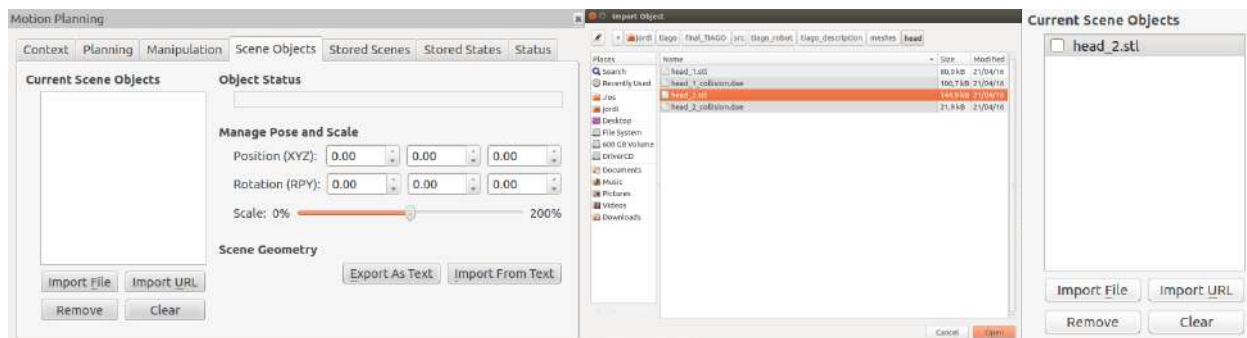

Figure 126: Scene objects tab (left), select the mesh (center), and the object listed in scene objects (right)
1. To add such an object to the planning environment, navigate to the “*Scene objects*” tab in the planning environment window, then click “*Import file*” and navigate to the `tiago_description` package, where the mesh of the head can be found in the `mesheshead` folder, as shown in figure 126.